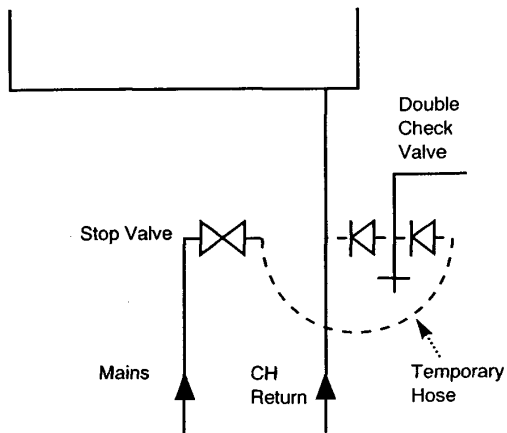

Fig. 9
4. The sealed primary circuits may be filled or replenished by means of a temporary connection between the circuit and a supply pipe, provided a 'Listed' double check valve or some other no less effective backflow prevention device is permanently connected at the inlet to the circuit and the temporary connection is removed after use (Fig. 9).